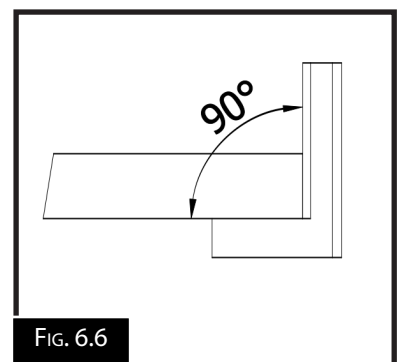

FIG. 6.6
1. Replace with a new blade and check for squareness. The workpiece should be as per Fig. 6.6